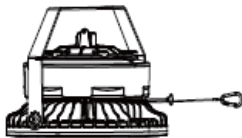

Figure 13
2. Wrap the safety cable around the middle of the luminaire (Figure 13) and tighten it (Figure 14).